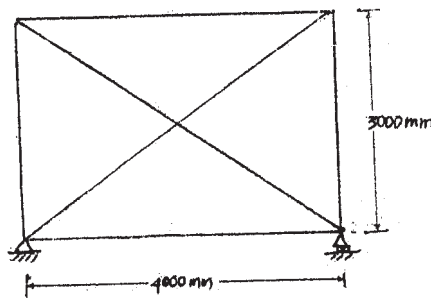

Fig. 8
**Q8) a)** Fig. 8 shows an indeterminate pin connected plane stress with cross sectional area of diagonal members equal to  $2000 \text{ mm}^2$  and all other members with cross sectional area of  $1000 \text{ mm}^2$ . If Young's modulus  $E = 200 \text{ kN/mm}^2$ . [12]